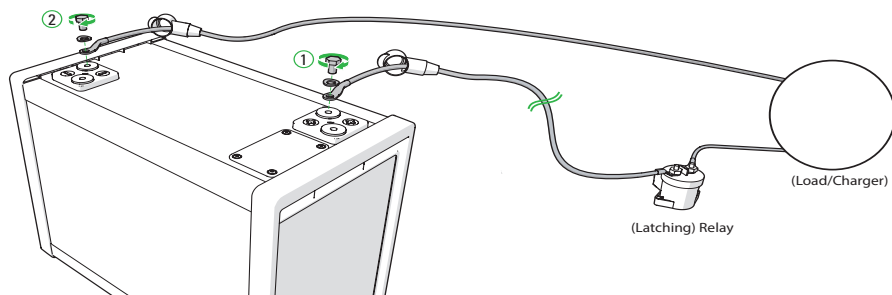

Figure 7. Connecting the battery to the load
2. Connect the + terminal of the battery to the - or A2 terminal of the relay (Figure 7; 1)
4. Connect the - terminal of the battery. Do not connect the - terminal first as this may lead to short circuits (Figure 7; 2)